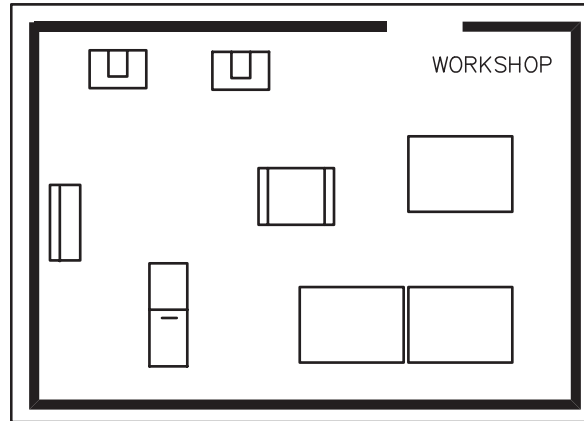

Fig. 35-4
We're going to use the new **lib1.dwg** file to create the workshop drawing shown in Fig. 35-4. With **DesignCenter**, we can review and insert blocks efficiently.
3. Using **PLINE**, create the outline of the workshop as shown in Fig. 35-4. Make the starting and ending width **4"** and make it nearly as large as possible.
5. Insert the block in the position shown in Fig. 35-4.